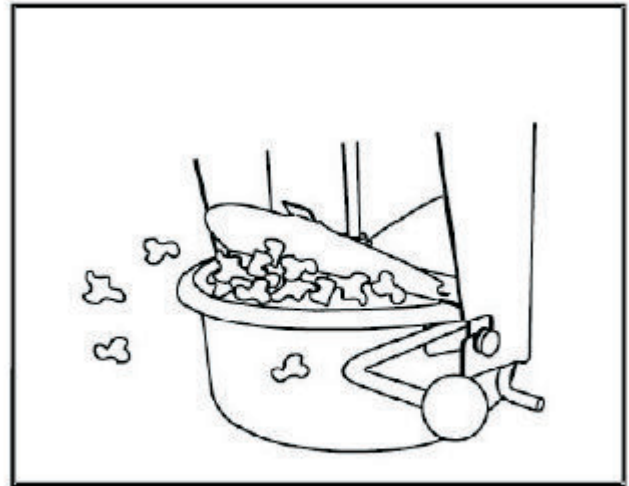

Fig. 4
10. Popcorn starts popping out through the lid after about 2 to 3 minutes. (Fig. 4)